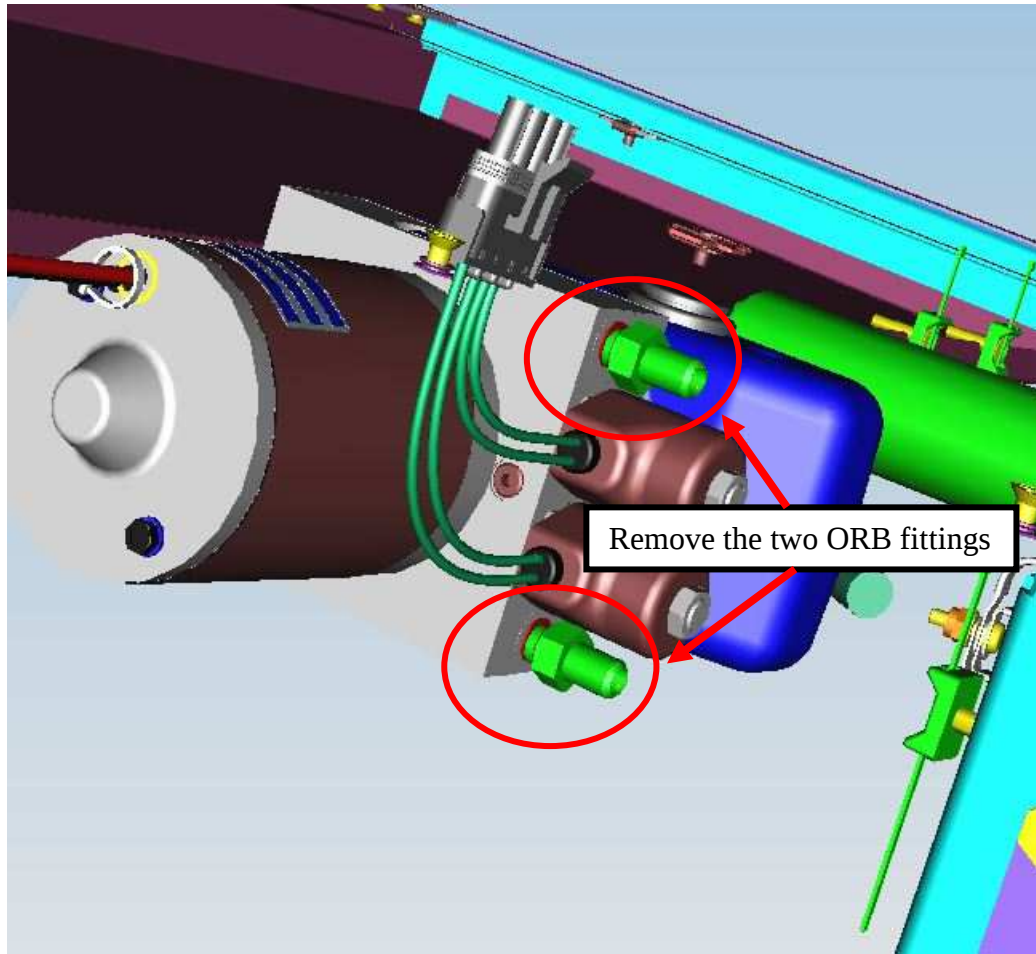

Figure 4: Powerpack ORB hydraulic fittings
- c. Remove and retain the two ORB fittings and plug the ports. Figure 4.